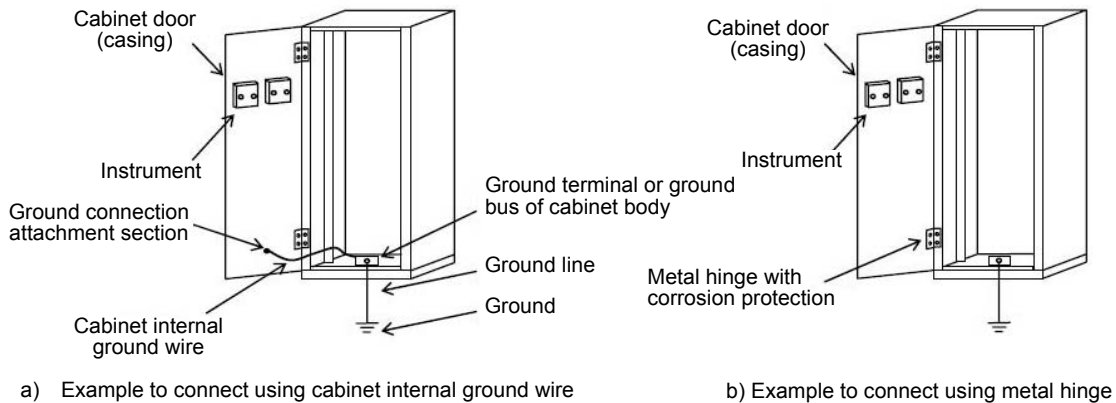

Figure 3: Example of casing grounding for cabinet with attached instruments
b) For metal casings such as cabinet doors allowing instrument attachment, connecting the cabinet body (or the grounding terminal and grounding bus installed on the cabinet body) and the door casing by electrical wire is desirable. It is deemed that grounding between the cabinet body and the brackets can be secured through electrically equivalent connections which allow conduction (for example, metal hinges with corrosion protection, toothed washers, use of sliding contacts, tightening by metal screw on metal support surface) [refer to JIS C 8480 7.4.3.1.5 b) and c)]. When using insulating hinges, however, the cabinet body and the casing must be connected by electrical wire. Figure 3 shows examples of door casing grounding of the cabinet with attached instrument.